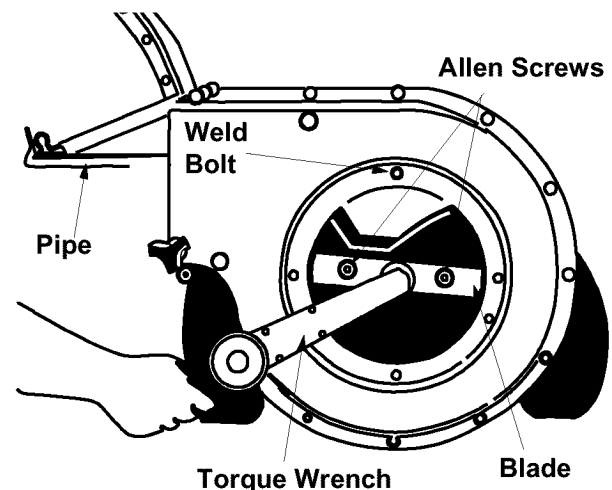

Figure 11
The shredder blade may be removed for sharpening or replacement as follows. See Figure 11.
11. When reassembling the blade, tighten center bolt to between 550 and 700 inch-pounds and the two outer bolts to between 250 and 350 inch-pounds, or lacking torque wrench, tighten securely. See Figure 11.